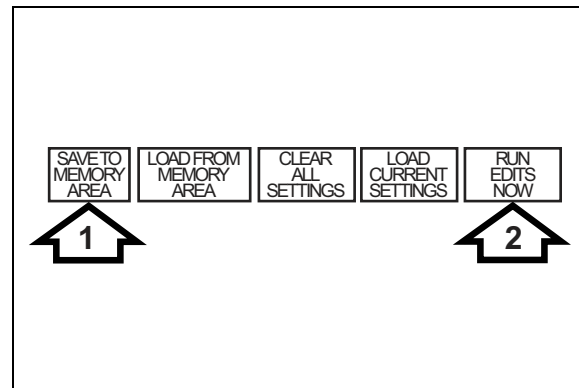

Figure 7-10: Save Keys
- **SAVE TO MEMORY AREA**—Saves the program to the memory area selected (#1 on Figure 7-10)
- **RUN EDITS NOW**—Saves the edits to the current settings (#2 on Figure 7-10)